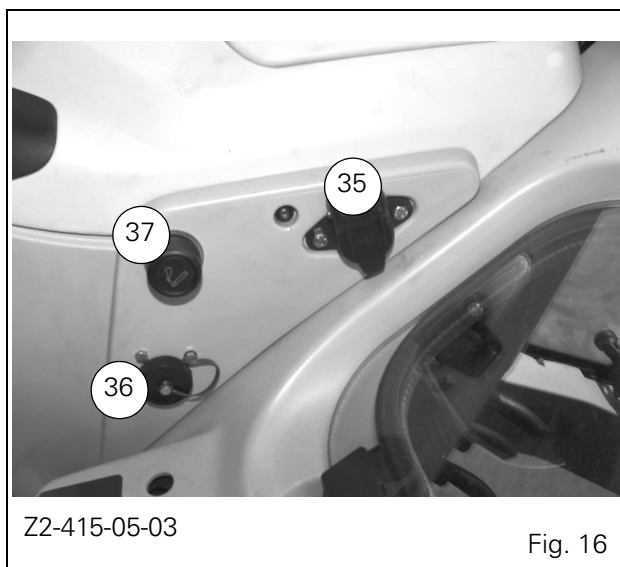

Fig. 16
- 35. Power socket for connection of accessories (Fig. 16).